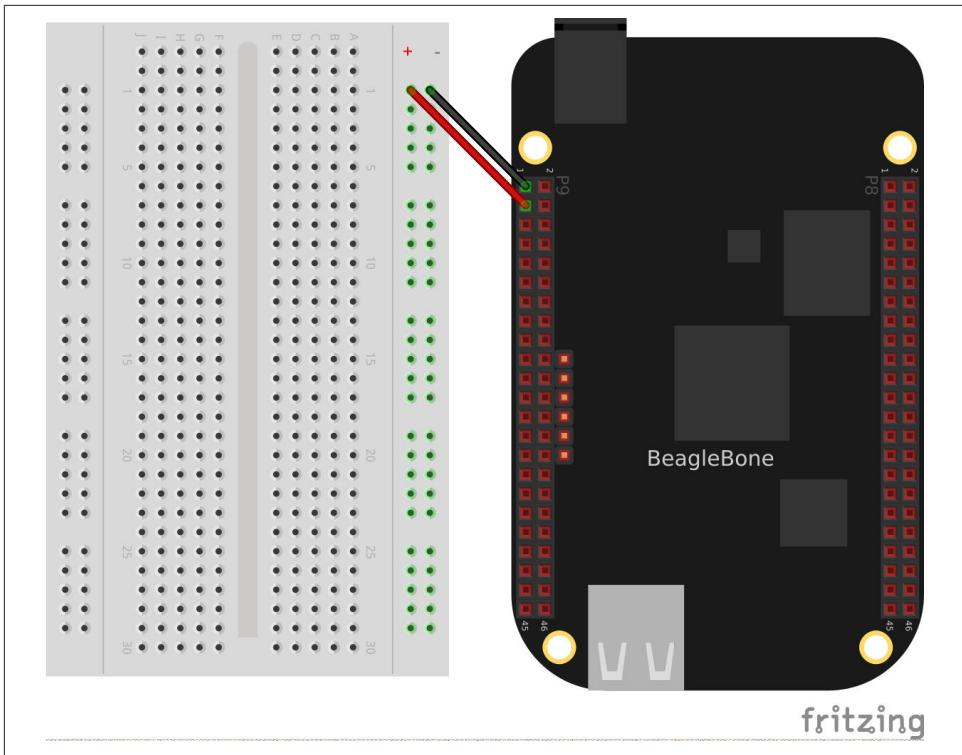

Figure 1-19. Breadboard wired to BeagleBone Black
**Figure 1-19** shows a breadboard wired to the Bone. All the diagrams in this book assume that the ground pin (P9\_1 on the Bone) is wired to the negative rail and 3.3 V (P9\_3) is wired to the positive rail.